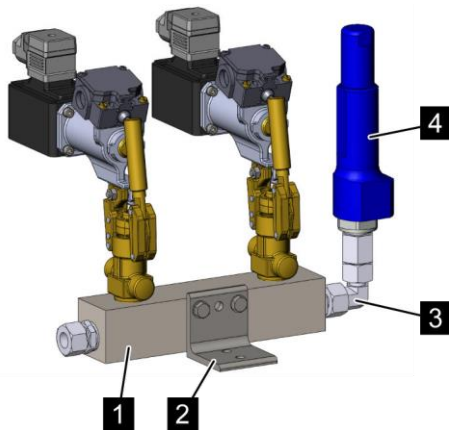

Fig. 106: Mounting the distributor block
1. ➔ Screw the holder (Fig. 106/2) on the distributor block (Fig. 106/1).
3. ➔ Mount a short connecting piece (Fig. 106/3) on the end of the valve block so that the safety valve (Fig. 106/4) can be mounted vertically upward.